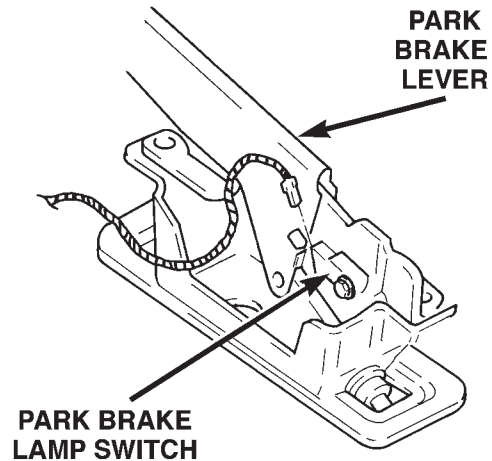

Fig. 36 Parking Brake Lamp Switch
- (5) Remove lever cover or center console if equipped. Refer to Group 23 Body for procedures.
- (6) Disconnect parking brake switch wiring connectors (Fig. 36).